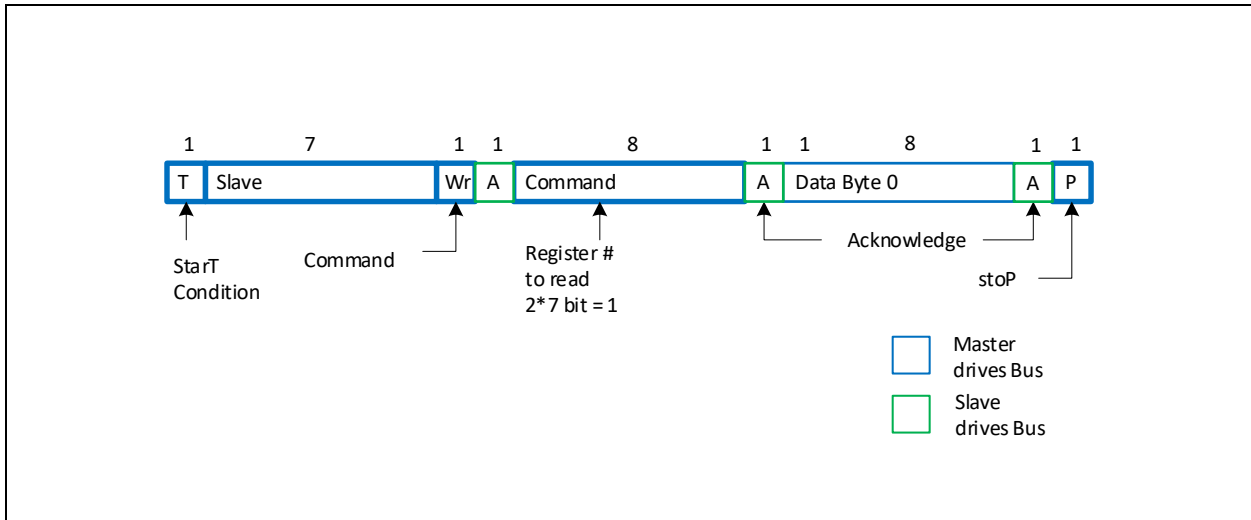

Figure 12. SMBus Byte Write
**Write.** Figure 12 illustrates a simple typical byte write. For byte operation the 2\*7th bit of the command byte must be set. For block operations, the 2\*7th bit must be reset. If the bit is not set the next byte must be the byte transfer count. The count can be between 1 and 32. It cannot be zero or exceed 32.